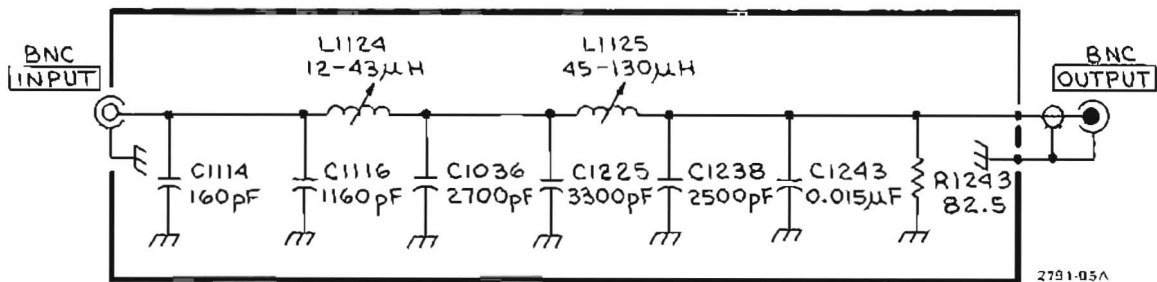

Figure 3. Schematic diagram.
3. Use the schematic diagram (Figure 3) as an aid in isolating the fault.